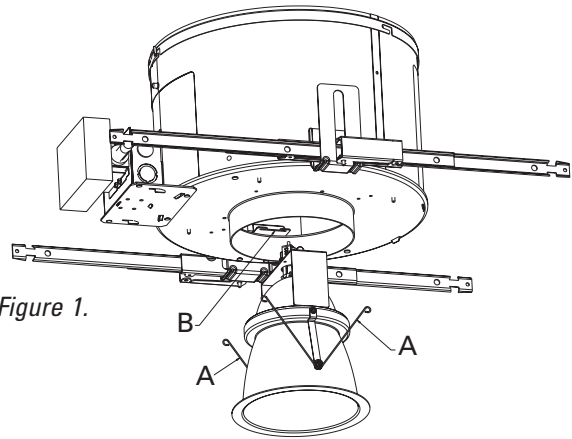

Figure 1
- 4 Install the trim by squeezing the butterfly springs (A) together and engaging them into the slots (B) provided in the housing. Gently push trim up until it is flush against the ceiling. Refer to Figure 1.